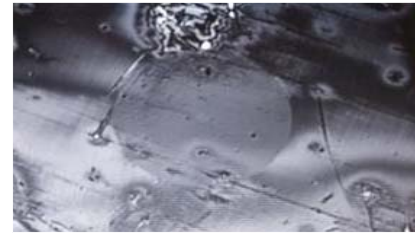

Figure 6 - Dry cleaning tends to move debris
**Dry cleaning** is often done with a tool for the end face, or swab or probe for the back plane connection. It may be effective on oily contamination, but has several significant limitations. Most significantly, dry cleaning tends to move, but not remove, debris and contamination (figure 6). Tips for success: